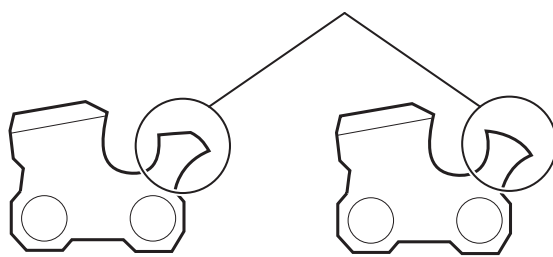

Fig. 43
- After lowering the depth gauge, use the flat file to restore the original rounded shape to the depth gauge (Fig. 43). Take care not to damage the cutting edges or nearby links.